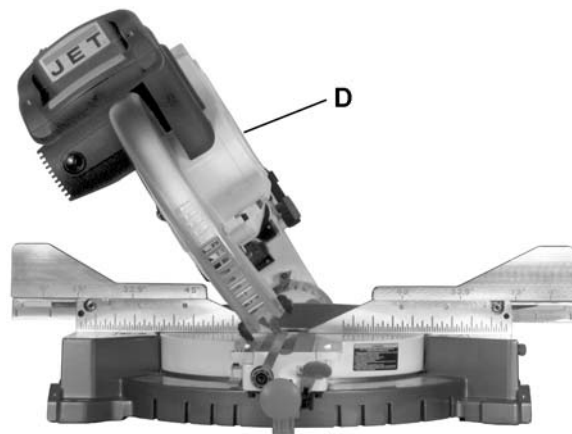

Figure 28
1. Push the *bevel detent stop pin* (E) in.
2. Loosen the *bevel lock handle* (A).
3. Rotate the *cutting head* (D, Fig. 28) until the *bevel detent pin* (E) stops the bevel angle at 33.9° on the *bevel scale* (F).
4. Tighten the *bevel lock handle* (A) before you make your cut.